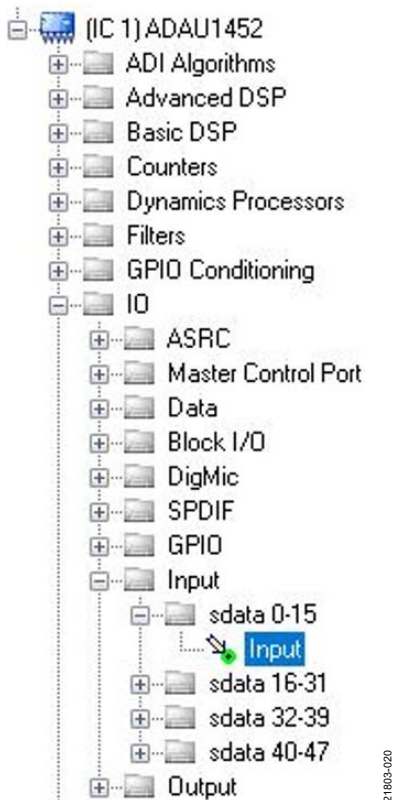
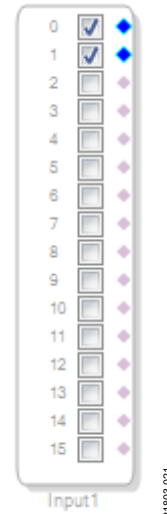

Figure 20. Adding an **Input** Component
Figure 21. **Input1** Block in the Project Space
3. Add an **Input1** block by clicking the **Input** component from the **(IC 1) ADAU1452 > IO > Input > sdata 0-15** folder (see Figure 20), and then dragging it into the empty project space. The **Input1** block, which represents an input channel, then appears as shown in Figure 21. By default, Channel 0 and Channel 1 are selected and this configuration matches the analog audio source hardware connections shown in Figure 11 and Figure 12. Therefore, no modifications are needed.